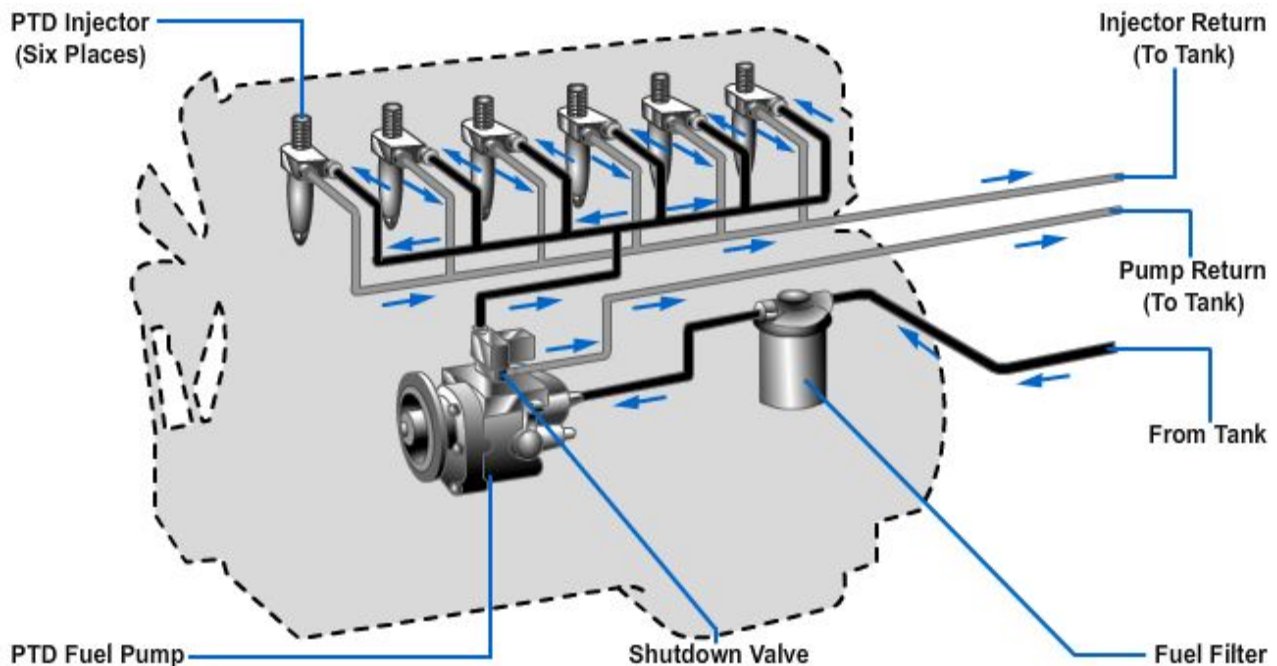

Figure 5-13 — Pressure-time fuel system.
The pressure-time (PT) fuel system (*Figure 5-13*) is exclusive to Cummins diesel engines; it uses injectors that meter and inject the fuel with this metering based on a pressure-time principle. A gear-driven positive displacement low-pressure fuel pump supplies fuel pressure. The time for metering is determined by the interval that the metering orifice in the injector remains open. This interval is established and controlled by the engine speed, which determines the rate of camshaft rotation and consequently the injector plunger movement.